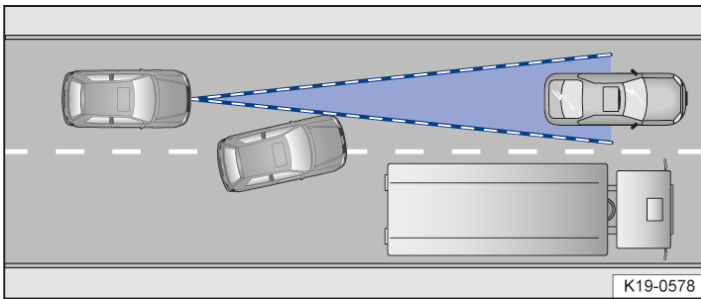

Fig. 4 Changing lanes.
- If vehicles change to your lane close in front of your vehicle → *fig. 4*.